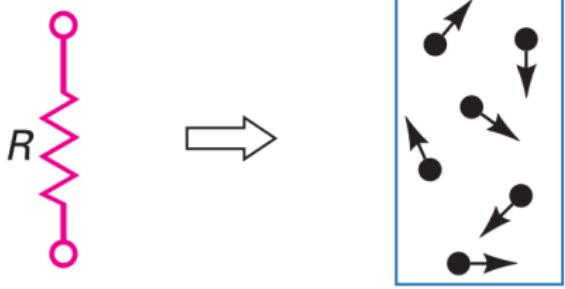

Figure 25: Thermal noise: Random electron motion in resistor
- ▶ Thermal noise, on the other hand, is caused by the random motion of free electrons inside a resistor (see Fig. 25).